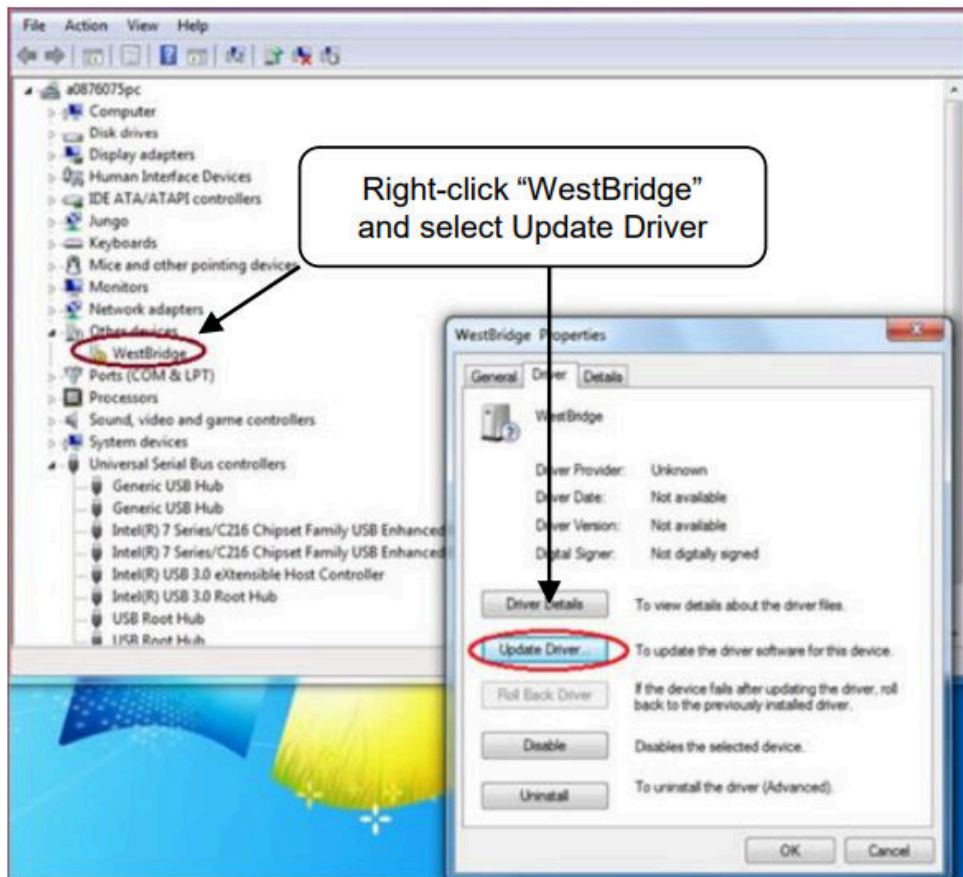

Figure 6-2. Update Driver with Device Manager
2. Open the Windows® Device Manager, as shown in Figure 6-1, and right-click on the *WestBridge* folder in the Device Manager window and select the *Update Driver* button (see Figure 6-2)
5. Click on *Have Disk* in the pop-up window and navigate to *C:\Program Files\Texas Instruments\ADS92xx\bin\proj\_lib\Sparrow\Bootloader* (see Figure 6-2).